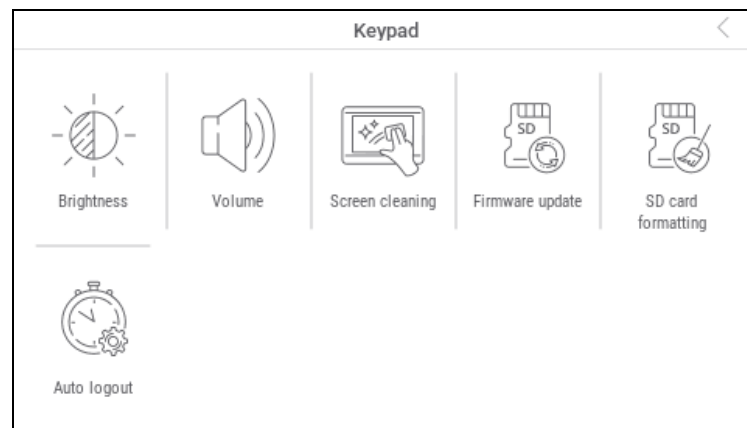

Fig. 26. "Keypad" screen.
6. Tap the "Keypad" function. The "Keypad" screen will be displayed (Fig. 26).
3. Tap the "Keypad" function. The "Keypad" screen will be displayed (Fig. 26).